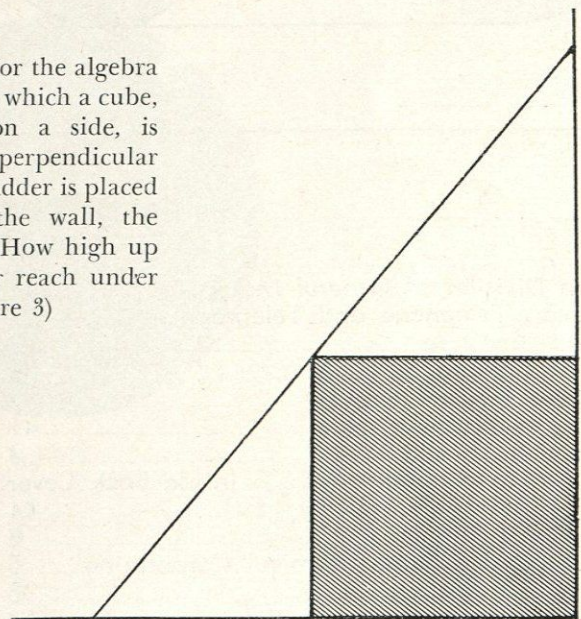

FIGURE 3
4) Another problem for the algebra expert is the problem in which a cube, measuring one yard on a side, is placed exactly against a perpendicular wall. Now a nine foot ladder is placed such that it touches the wall, the ground, and the cube. How high up the wall can the ladder reach under these conditions? (Figure 3)